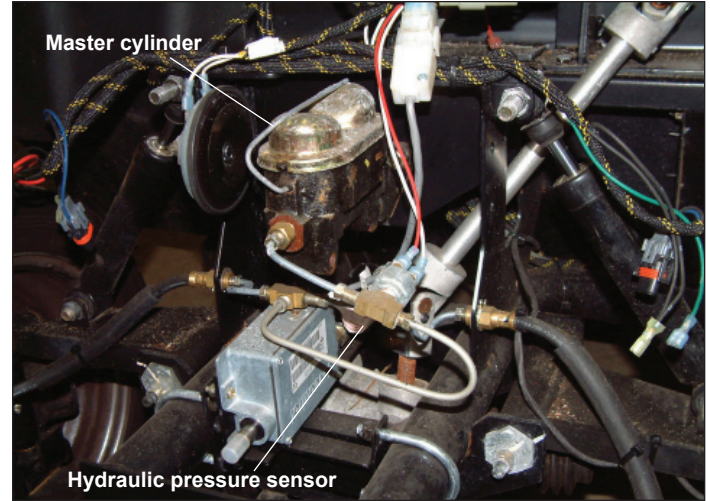

Figure 5-6. Hydraulic Brake Master Cylinder
A mechanical brake pedal and linkage is utilized to actuate a master cylinder. The master cylinder creates hydraulic pressure which operates the brakes. Hydraulic brake systems require a separate mechanical parking brake. A hand operated parking brake, mechanical linkage and cables are utilized to mechanically lock the rear brakes for parking. An optional hydraulic pressure sensor (Figure 5-6) is used on some vehicles to operate the rear brake lights.
2. Inspect brake master cylinder and adjoining brake lines for signs of fluid leakage. Remove master cylinder cover (Figure 5-6). Fluid must be clear and fluid level should be within 1/2" of cylinder top (with vehicle on level ground).
1. Maintain fluid level within 1/4" of master cylinder filler opening (Figure 5-6).